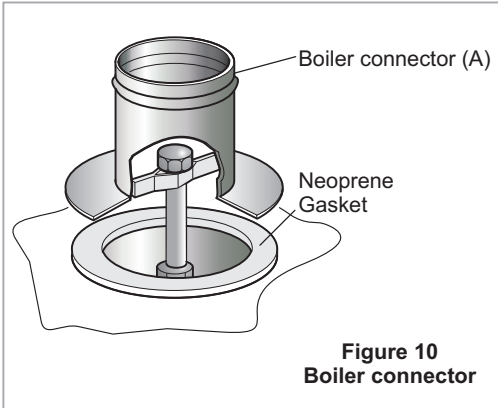

Figure 10
Locate the boiler connector (A) centrally into the gasket on the top of the boiler. Tighten the bolt to fix the connector in place (see figure 10).